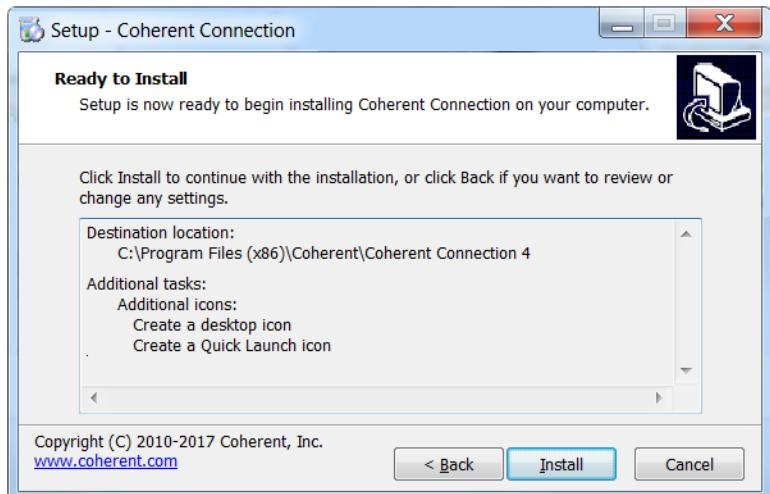

Figure 5-14. Review Set-Up before Installation Begins
11. The set-up utility is now ready to begin installing Coherent Connection 4 software on your workstation. Review the location and icons, as shown in the example in Figure 5-14, and then click Next.